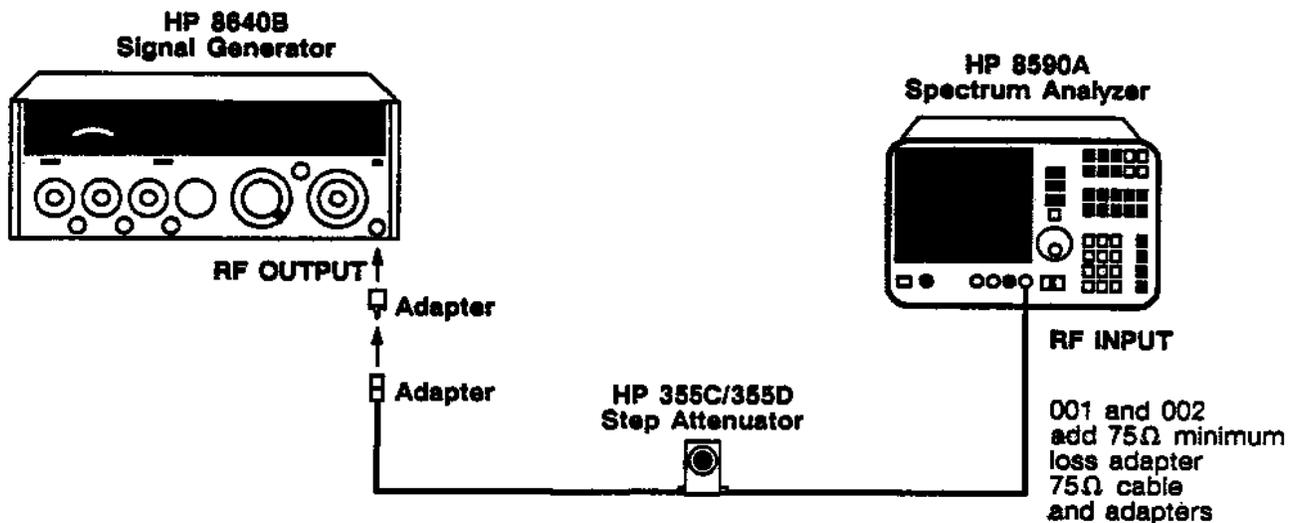

Figure 1-6. Reference Level Accuracy Test Setup
3. Connect the equipment as shown in Figure 1-6. If your analyzer has Option 001 (75-ohm RF input), connect the 75-ohm side of the minimum loss adapter to the 75-ohm cable, connect the other end of the 75-ohm cable to the RF input of the analyzer, and connect the 50-ohm cable from the step attenuator to the 50-ohm side of the minimum loss adapter.